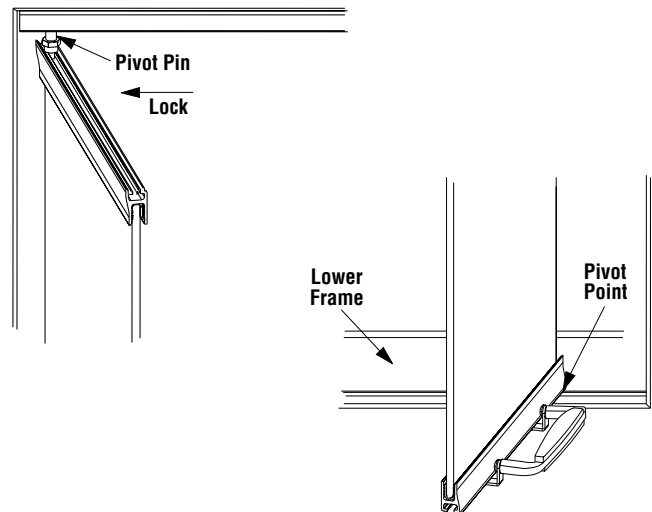

Figure 2
Step 2. Starting with the lower end of either the right or left hand door hold the door at a slight angle to the door frame outer edge, with the top tilted toward the center. Swing the lower corner of the door over the hole in the lower frame and engage the lower pivot point pin into the hole on the lower frame of the firebox opening (see *Figure 2*).